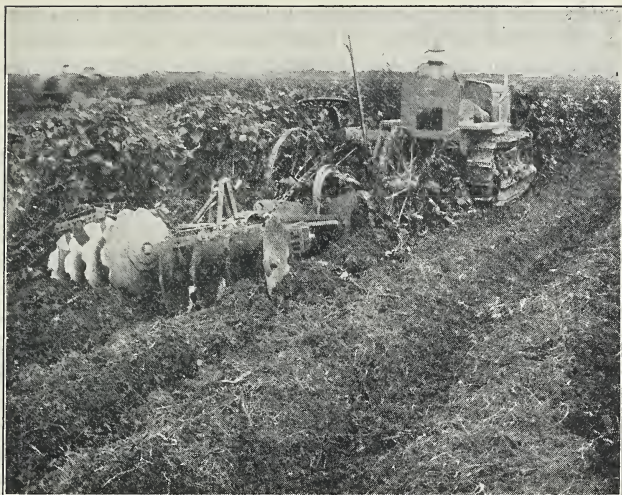

Fig. 395. A disk harrow turning under a soy bean cover crop, Louisiana.
**Cultivation of the soil.** Plowing, harrowing, and otherwise breaking up the soil is called *cultivation*. The plow turns over large masses and clods of earth. The harrow and the drag break up the clods and level the surface (Fig. 395).